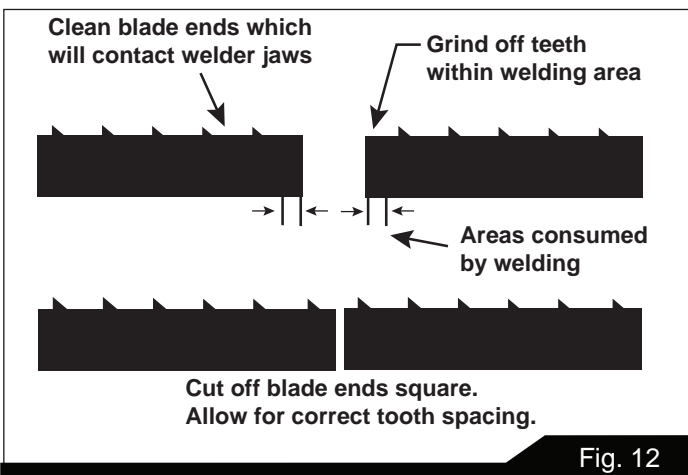

Fig. 12
3. Position blade so that cut is made at a place that allows for uniform spacing of teeth. See Figure 12.
In fine pitched blades, one or more of the teeth on each side of the cut may need to be removed by grinding so that the weld area of the blade is uniform and the teeth will be uniformly spaced. See Figure 12, and refer to section 12.5 Blade grinding.